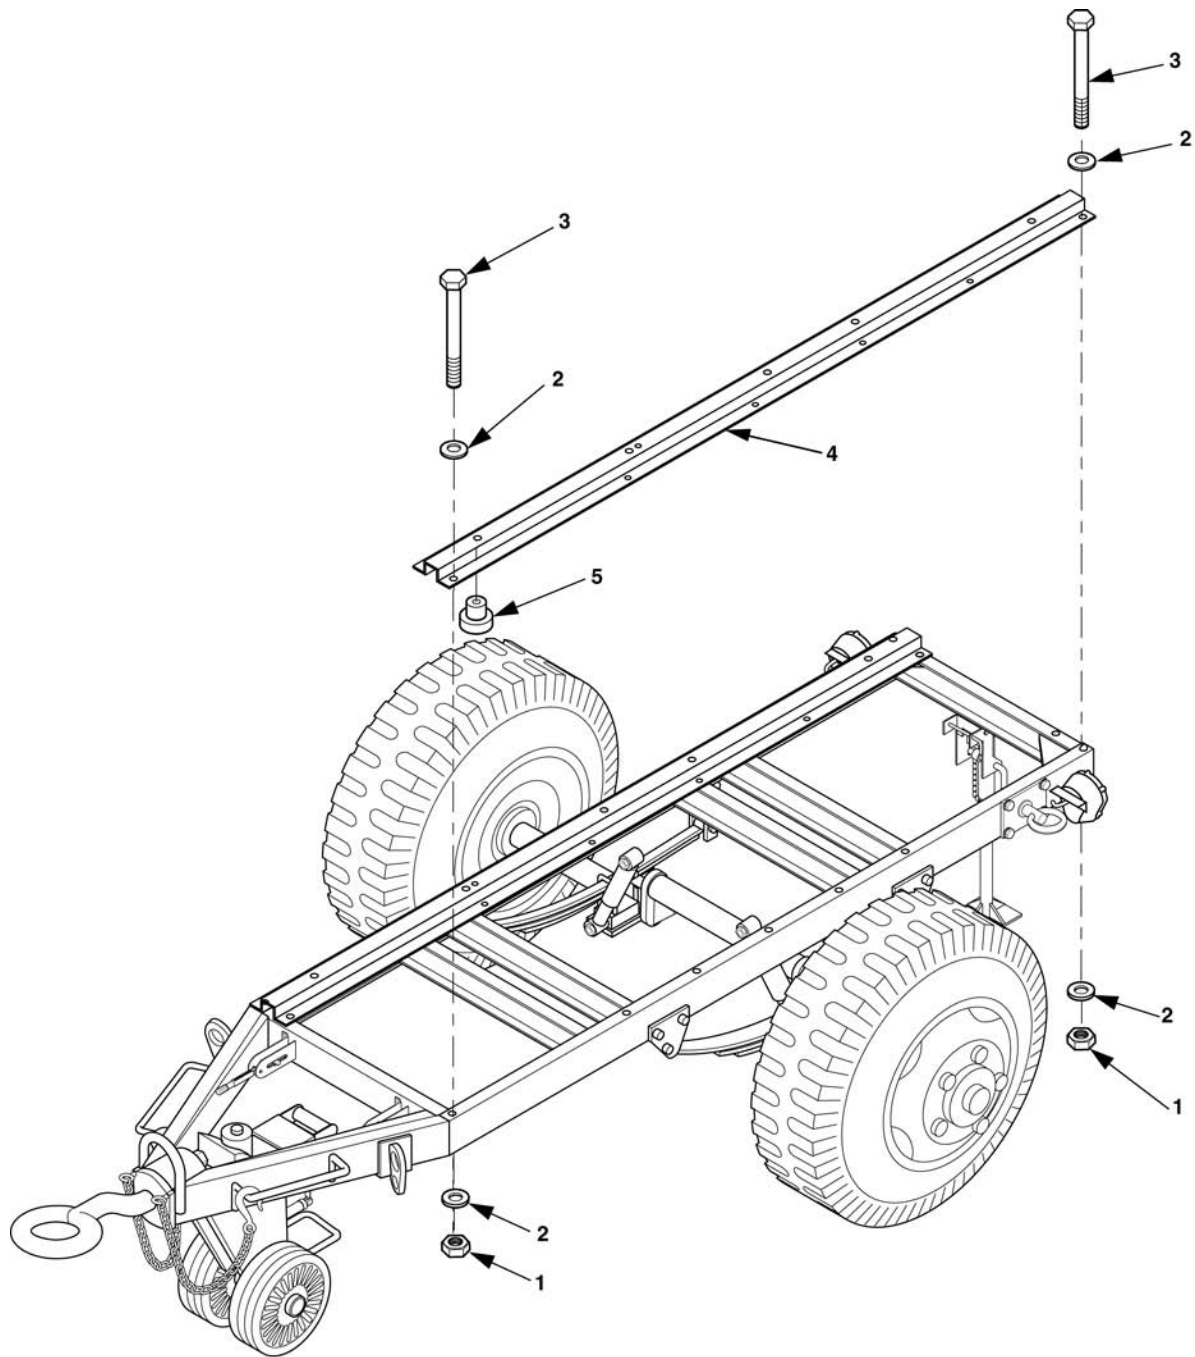

Figure 5-24. Replace AN/MJQ-36 Generator Mounting Rail.
Remove self-locking nuts (1, figure 5-24), flat washers (2), cap screws (3) and mounting (4).